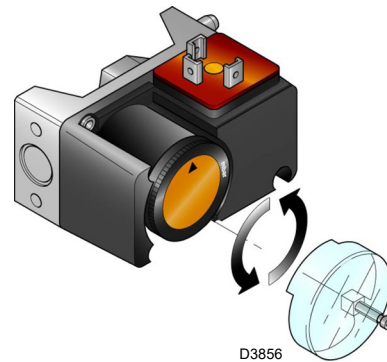

Fig. 24
- Adjust the maximum gas pressure switch (Fig. 24) to the end of the scale.
- adjust the maximum gas pressure switch (Fig. 24), on the butterfly valve, to the end of the scale;
Adjust the maximum gas pressure switch after having performed all the other burner adjustments with the maximum gas pressure switch set at the end of the scale (Fig. 24). With the burner operating at MAX output, reduce the adjustment pressure by slowly turning the adjustment knob anticlockwise until the burner locks out. Turn the knob clockwise by 0.2 kPa (2 mbar) and repeat the start-up of the burner.